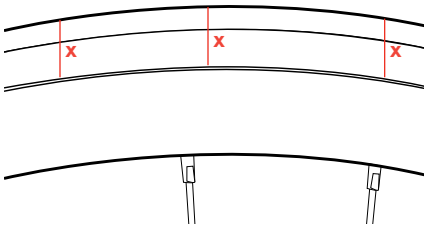

Figure 22. Correct. Make sure the mold line of the tire is equal (X distance) with the rim all the way around.
7. Check for correct tire bead engagement in the rim (Figures 22 and 23).
10. Re-check for correct tire bead engagement (Figures 22 and 23).